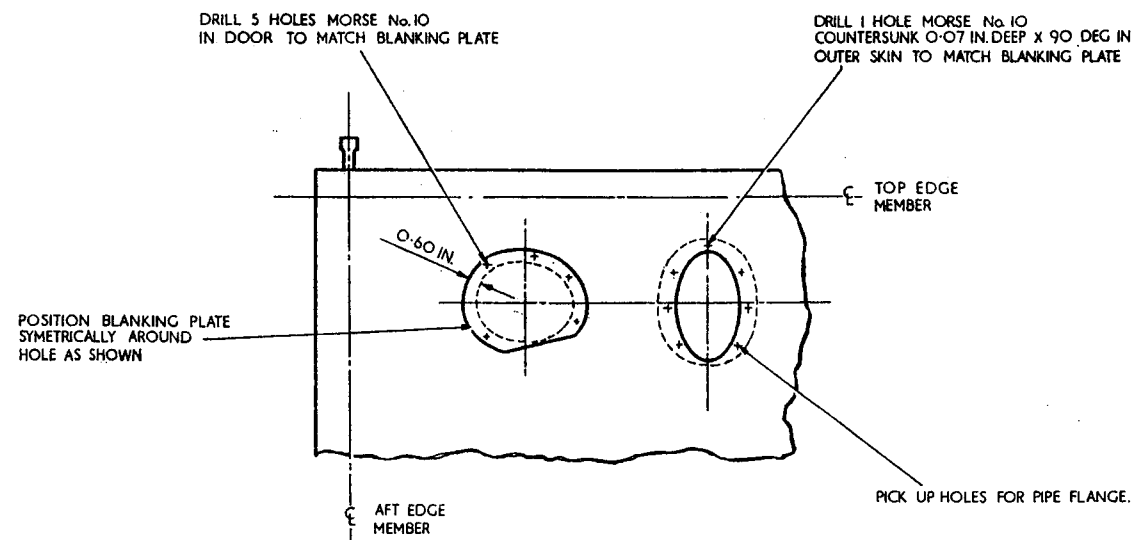

Fig. 2 Fitting blanking plates to starboard radio bay access door
- (1) Remove the starboard radio bay access door.
- (2) Remove the port and starboard link containers.
- (3) Remove the starboard outboard case chute from the aircraft, and the starboard inboard case chute from the starboard radio bay access door.
- (4) Modify the starboard radio bay access door as shown in fig. 2 and fit the blanking plates, Part No. A.260681 and A.260682, using bolts, Part No. AS.1242.I.C, nuts, Part No. A.G.S.2002.C.1 and washers, Part No. S.P.15.C.